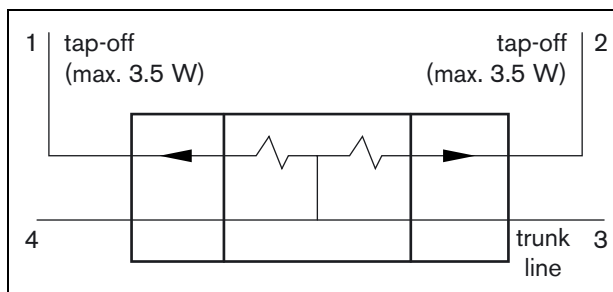

figure 12.2: Connecting the tap-off unit
- Looping the trunk through (see figure 12.2).
- Creating tap-offs (see figure 12.2).